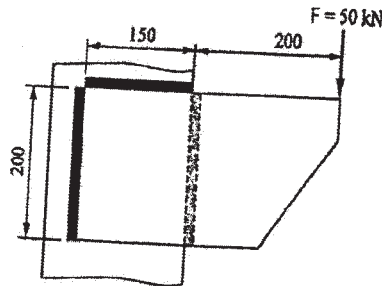

Fig: 1
b) A bracket supporting an eccentric load is welded by three fillet welds as shown in fig.1 Determine size of weld, if permissible shear stress is limited to 66MPa. [6]